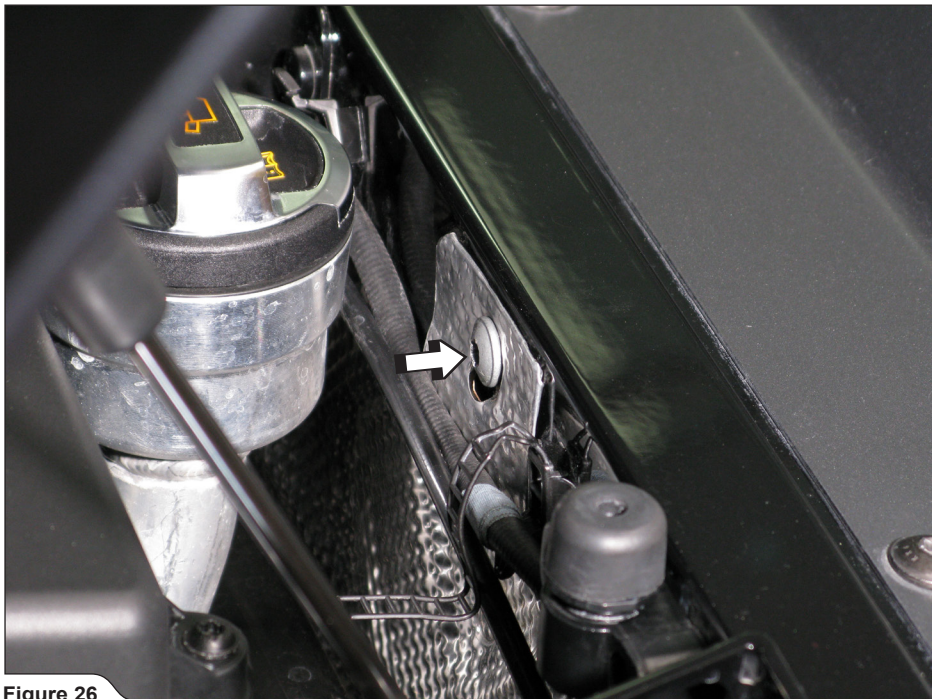

Figure 26
18. Unscrew the marked heat shield's bolts on both sides of the vehicle (**Figure 26**).